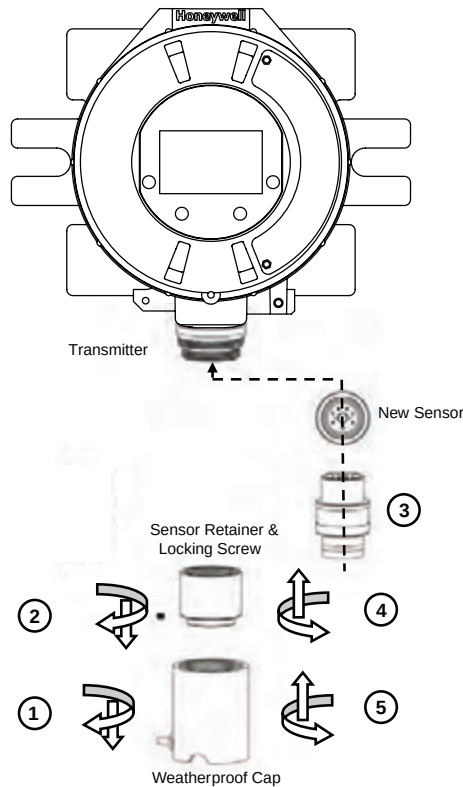

Figure 43. Installing Plug In Sensor
- 9. Make the wiring connections as shown in Figure 43.